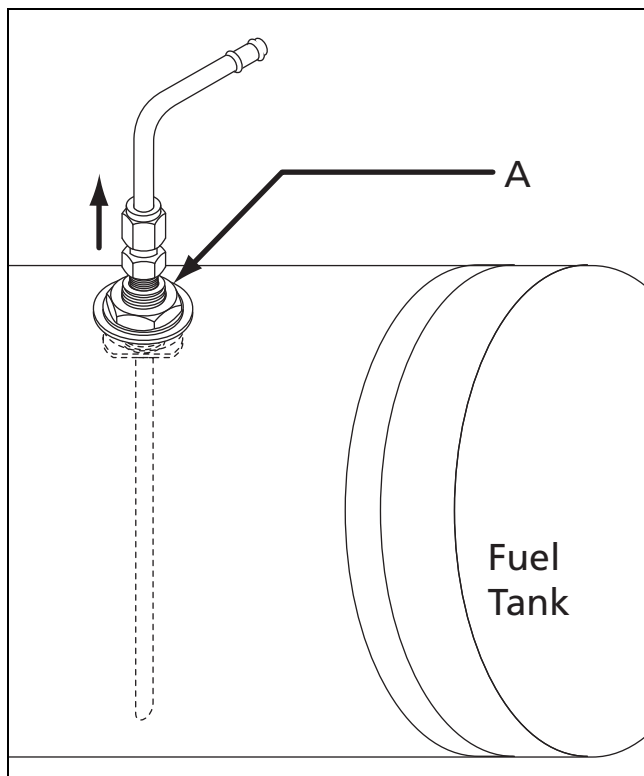

Figure 21: Standpipe installation - illustration 3
- pull up on standpipe and tighten in place with the clamping nut (item A in Figure 21). Do not over-tighten causing rubber washer to squeeze out!